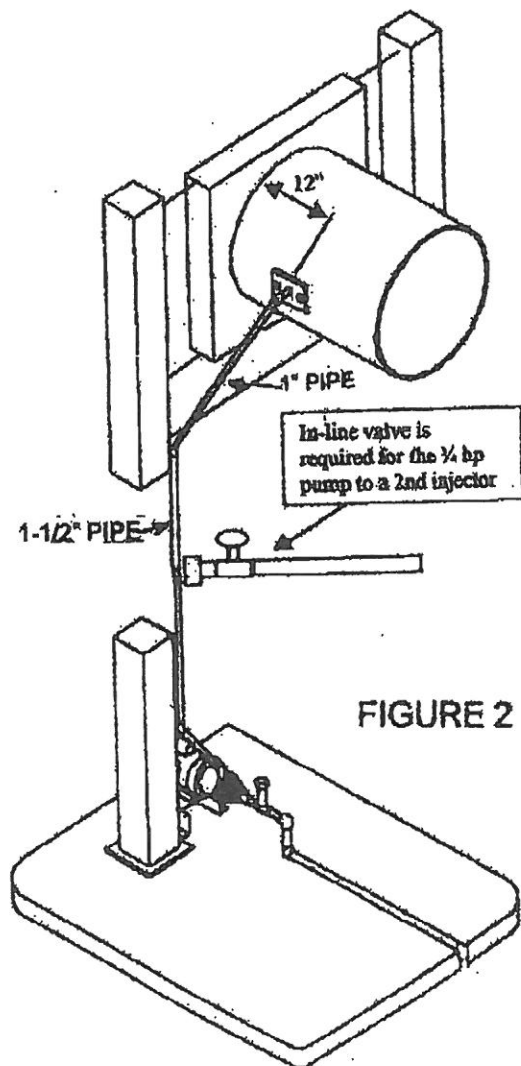

FIGURE 2
(14). Install straight PVC pipe upward to the tower deck. Secure PVC pipe to the tower post using plastic tie straps or Sconduit straps & 1/4" Tek screws. (See Figure 2).
(15). On a two injector system using a 1/2 HP pump, install a "T" and valve for the second line to maintain an equal water pressure to both injectors. (See Figure 2).
Note: Do Not install the injector on a seam. Move the injector as necessary to position it close to the specified location (See Figure 2).
(17). Install a straight pipe long enough to reach the side of the flume 12" away from the panel. (See Figure 2).